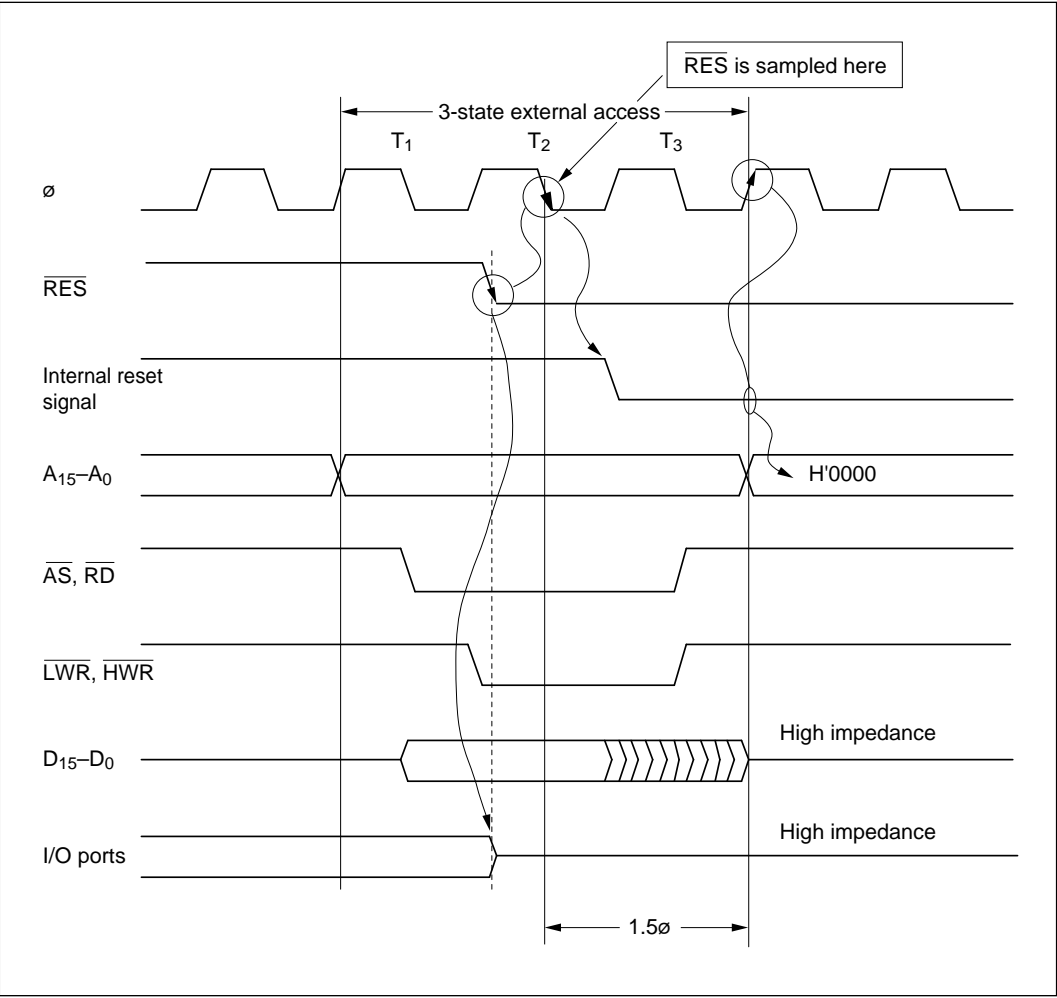

Figure G-1 Reset during Three-State Access (modes 1 and 6)
(1) **Modes 1 and 6:** Figure G-1 is a timing diagram for the case in which $\overline{\text{RES}}$ goes low during three-state access in mode 1 or 6. As soon as $\overline{\text{RES}}$ goes low, all ports are initialized to the input state. $\overline{\text{AS}}$, $\overline{\text{RD}}$, $\overline{\text{LWR}}$, and $\overline{\text{HWR}}$ go high, and D_{15} to D_0 go to the high-impedance state. A_{15} to A_0 are initialized to the low state 1.5 system clock cycles (1.5ϕ) after the low level of $\overline{\text{RES}}$ is sampled.